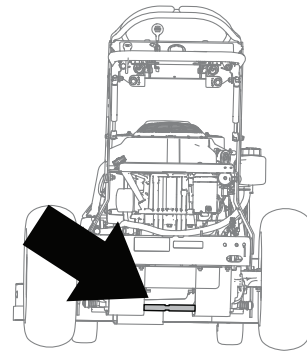

Figure 3
1. Locate the axle rod where the shield will be installed (Figure 3).